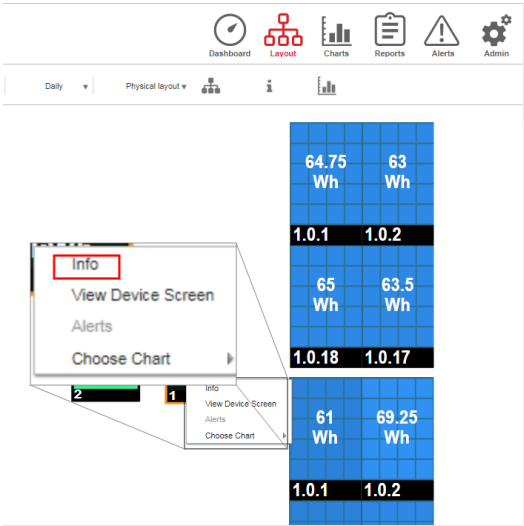
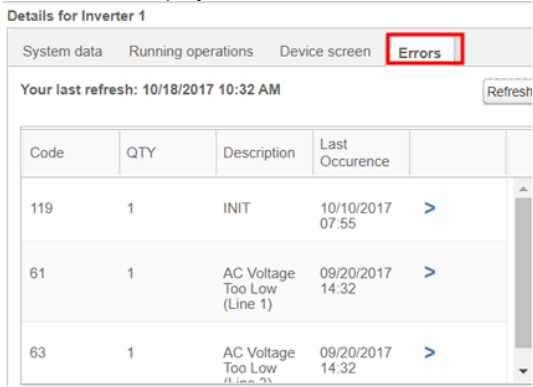

Figure 23: Inverter menu
Figure 24: Inverter details - Error list
- 2. Right-click the inverter and select **Info** from the menu (*Figure 23*). The inverter details window is displayed (*Figure 24*).